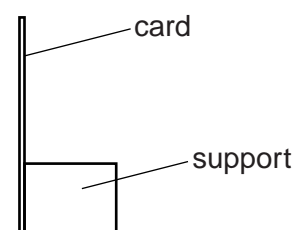

Fig. 1.2
- (v) Screen. A white sheet of stiff card approximately 15 cm × 15 cm, fixed to a wooden support is suitable (see Fig. 1.2).